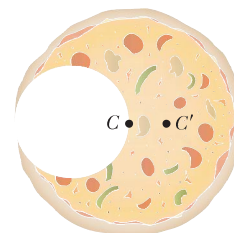

Figure P12.6
6. A circular pizza of radius R has a circular piece of radius $R/2$ removed from one side as shown in Figure P12.6. The center of gravity has moved from C to C' along the x axis. Show that the distance from C to C' is $R/6$. Assume the thickness and density of the pizza are uniform throughout.